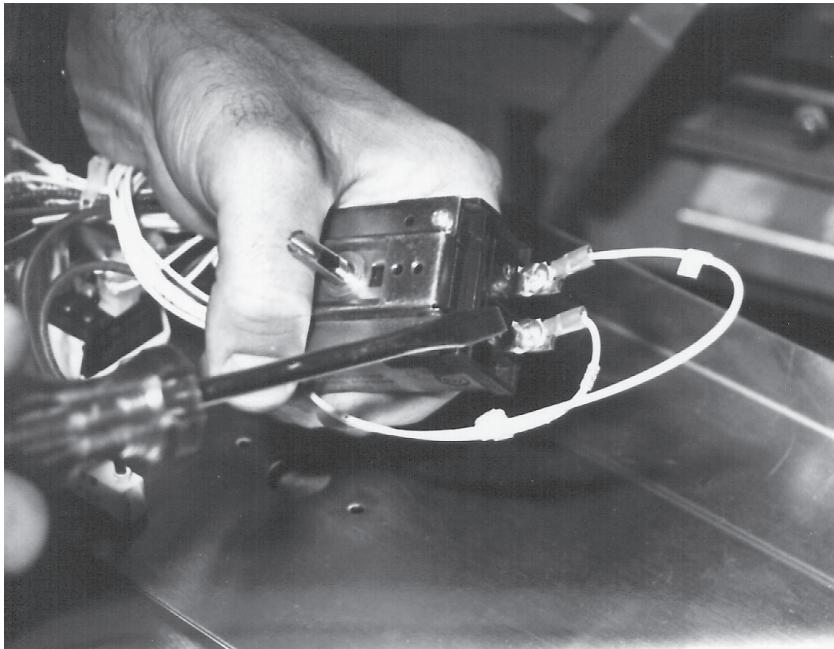

Fig. 25
7. Note and using a flat blade screwdriver, disengage all wiring form the thermostat body. (Fig. 25)